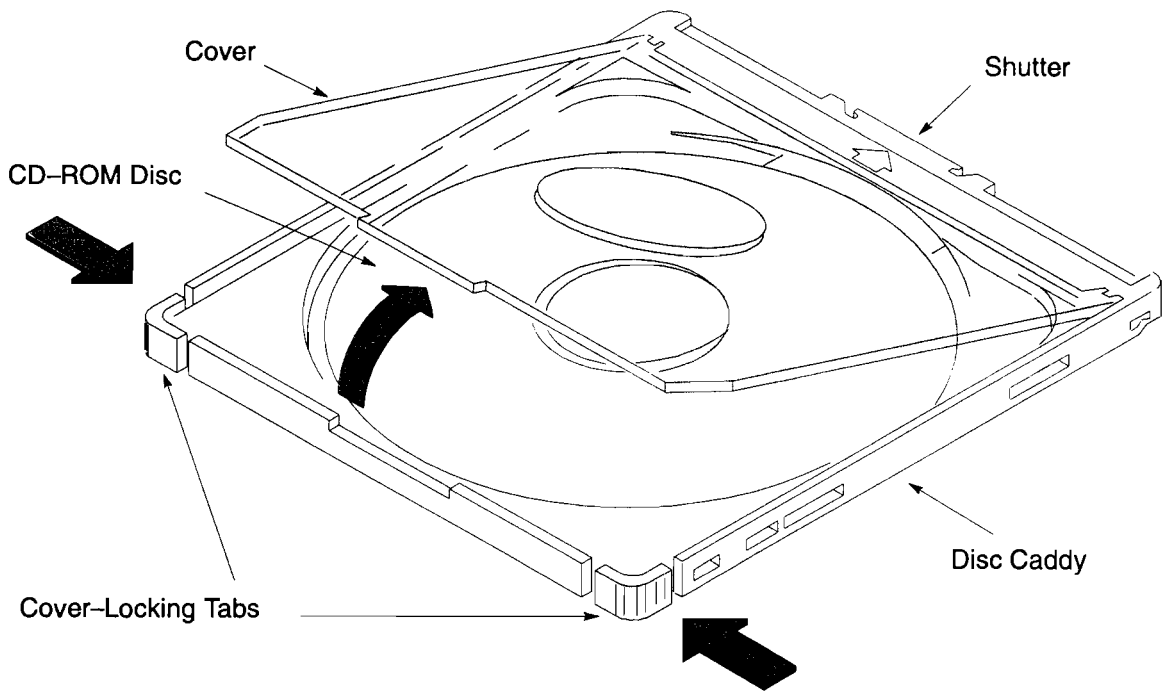

Figure 6-1. CD-ROM Disc and Disc Caddy
To open the CD-ROM disc caddy, press inward on the two cover-locking tabs and lift the cover, as shown in Figure 6-1.
1. Open the disc caddy by pressing inward on the two cover-locking tabs and lifting the cover, as shown in Figure 6-1.